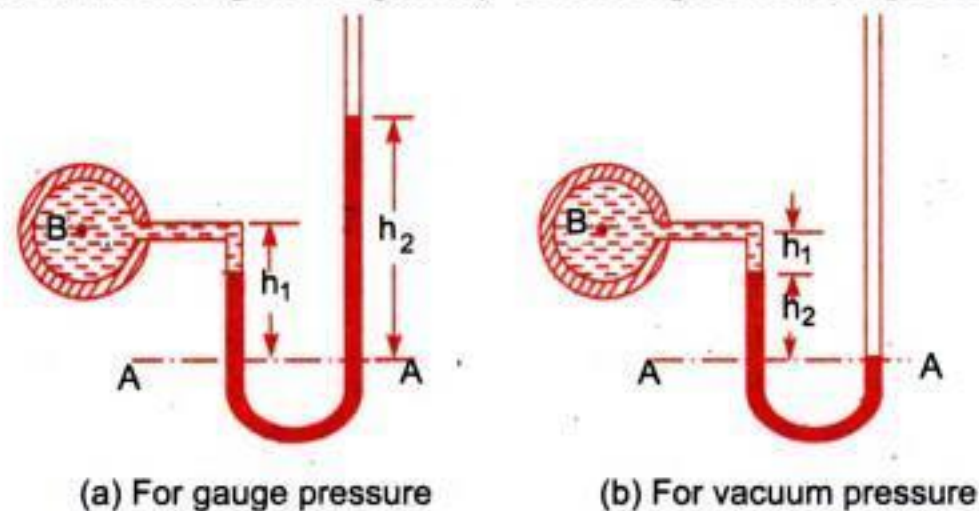

Fig. 2.9 U-tube Manometer.
**2.6.2 U-tube Manometer.** It consists of glass tube bent in U-shape, one end of which is connected to a point at which pressure is to be measured and other end remains open to the atmosphere as shown in Fig. 2.9. The tube generally contains mercury or any other liquid whose specific gravity is greater than the specific gravity of the liquid whose pressure is to be measured.
**(b) For Vacuum Pressure.** For measuring vacuum pressure, the level of the heavy liquid in the manometer will be as shown in Fig. 2.9 (b). Then